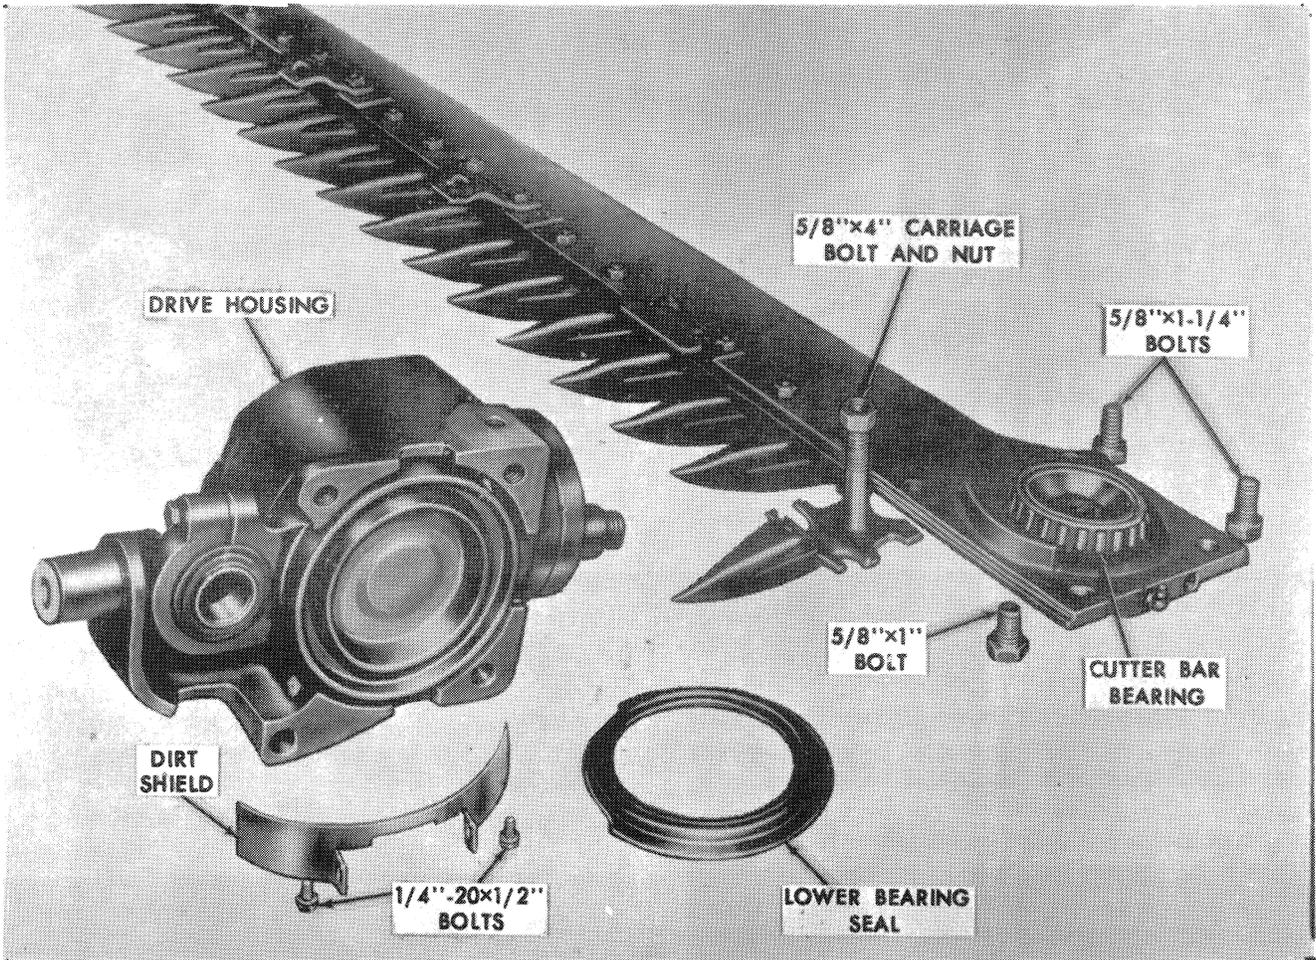

Figure 9
7. Remove the drive assembly from the cutter bar by removing the four 5/8" bolts shown in Figure 9. After removing the assembly, remove the lower bearing seal and the dirt shield, Figure 9.